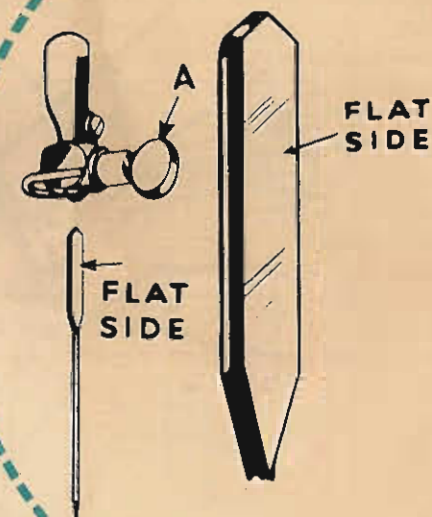

Fig. 3
To replace the needle, raise the needle bar to its highest point by turning the balance wheel (Fig. 3) TOWARD YOU by hand. Loosen the needle clamp screw (A) on the right hand side and the needle clamp will open, allowing the old needle to fall out.